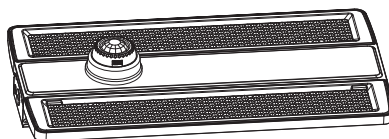

Figure 10
3. Align the sensor with the Zhaga base, insert it, and twist clockwise to lock it into place. (See Figure 10.)